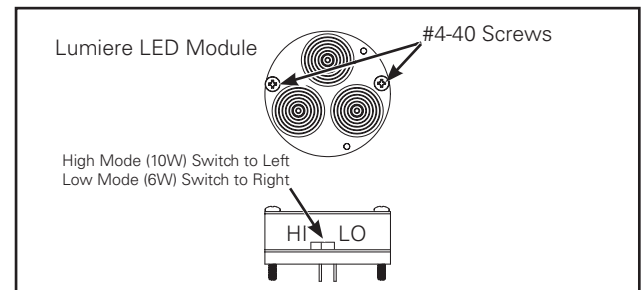

Figure 2.
- LED Module: If already lamped, make sure fixture has cooled down before attempting to remove old lamp. Once fixture is sufficiently cooled, remove the 4-40 screws and pull out module. Do not twist. Remove new Lumiere LED module from box and remove nuts from the 4-40 screws. The nuts are used for shipping purposes. Visually align the mounting holes with the threaded holes in the fixture base and the Bi-pin connectors with corresponding receptacles in socket base. Gently insert the new Lumiere LED module into the base ensuring pins are aligned with the socket and firmly press LED module until positively seated. Insert and tighten the 4-40 screws that lock LED heat sink to the fixture base. (Figure 2.)